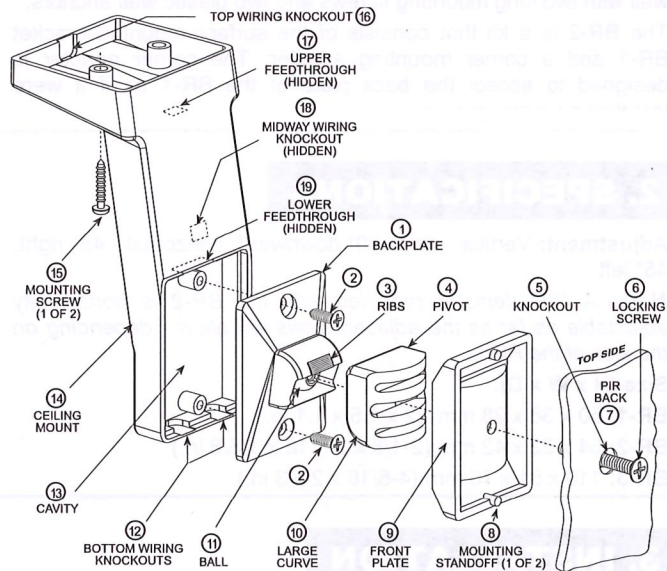

Figure 4. BR-3 - Construction and Assembly
3.3 Installing the BR-3 (Figure 4)